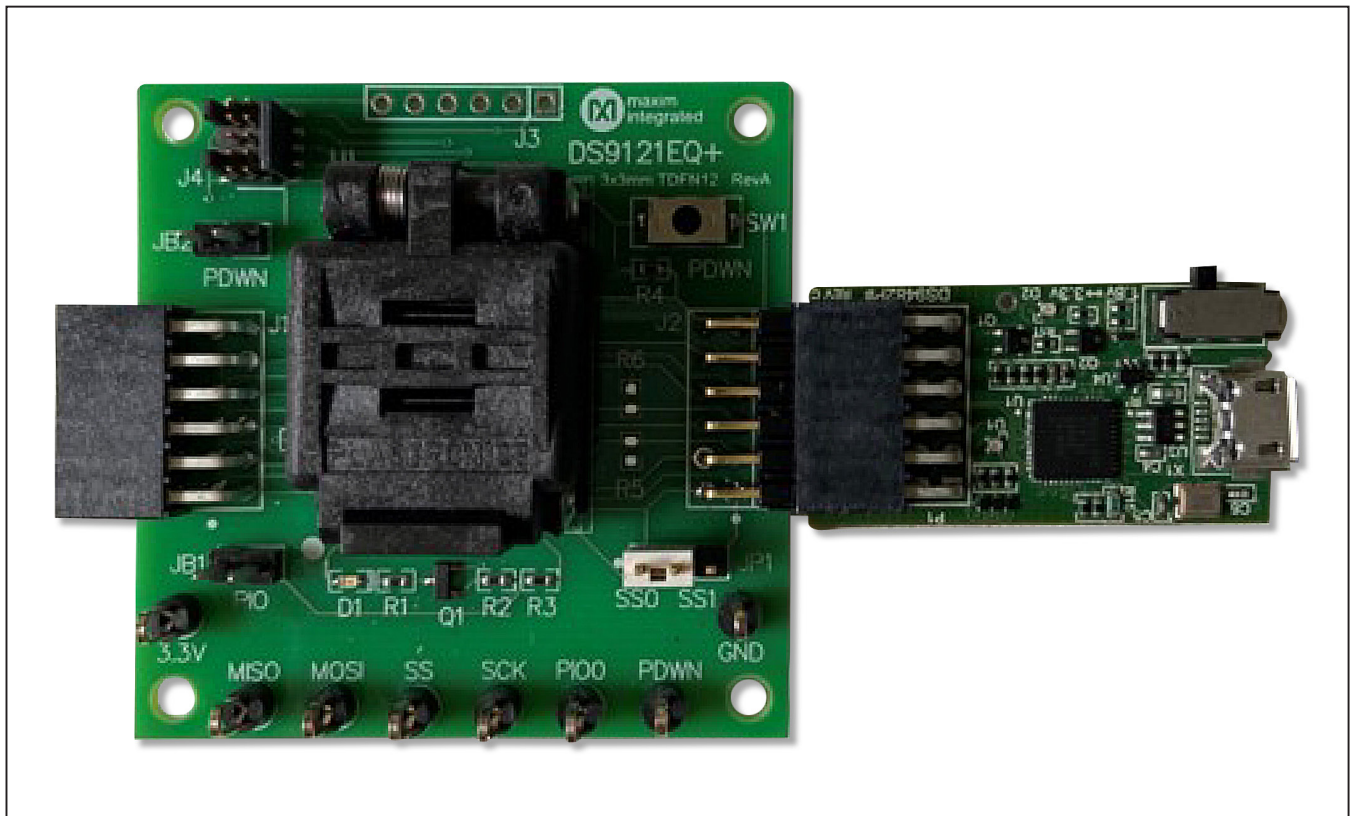

Figure 8. DS9482P# and DS9121EQ
- c. Connect the DS9121EQ J2 12-pin female socket, into the DS9482P# 12-pin female plug per Figure 8.